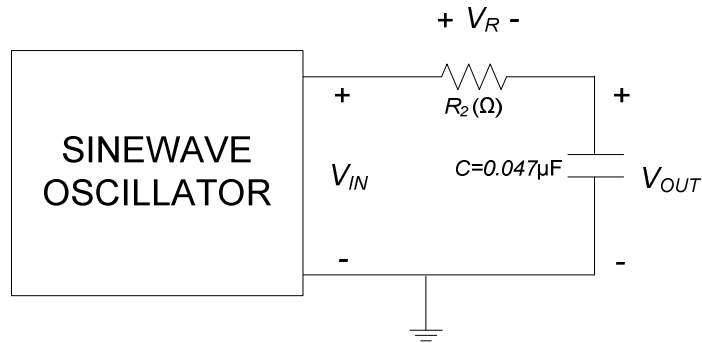

Figure 2. Circuit configuration for step 2.1.
5. (_/0.125) Calculate the “corner” frequency of the low-pass filter given in Figure 2.
- 2.1 (/_/0.5) Connect the circuit shown in Figure 2. From the resistor drawer choose a resistor that is the closest match to your calculated value of R_2 . Record this value.